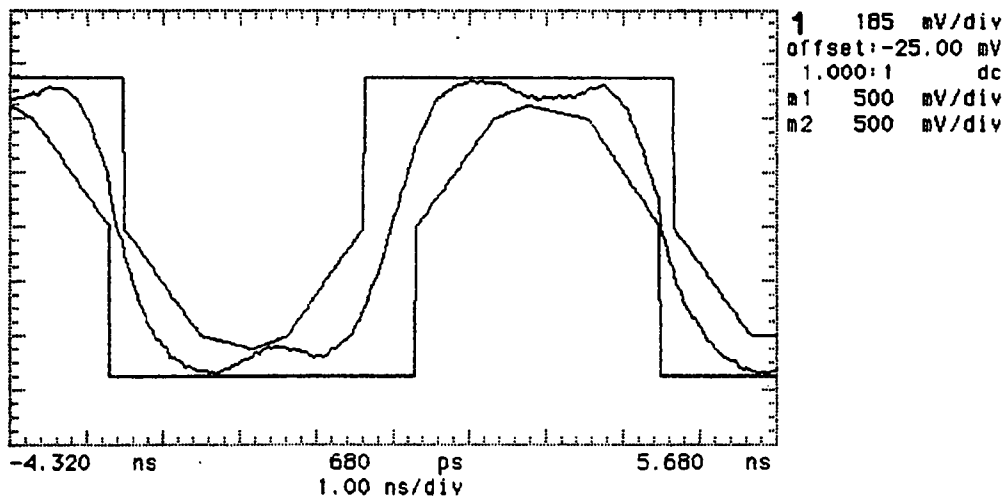

Figure 3-15. 140 Mb/s All Zeros Pulse
45. Press SHIFT **AUTOSCALE** on the oscilloscope to automatically align the pulse to the mask. Verify that the pulse falls within the mask as shown in Figure 3-15.